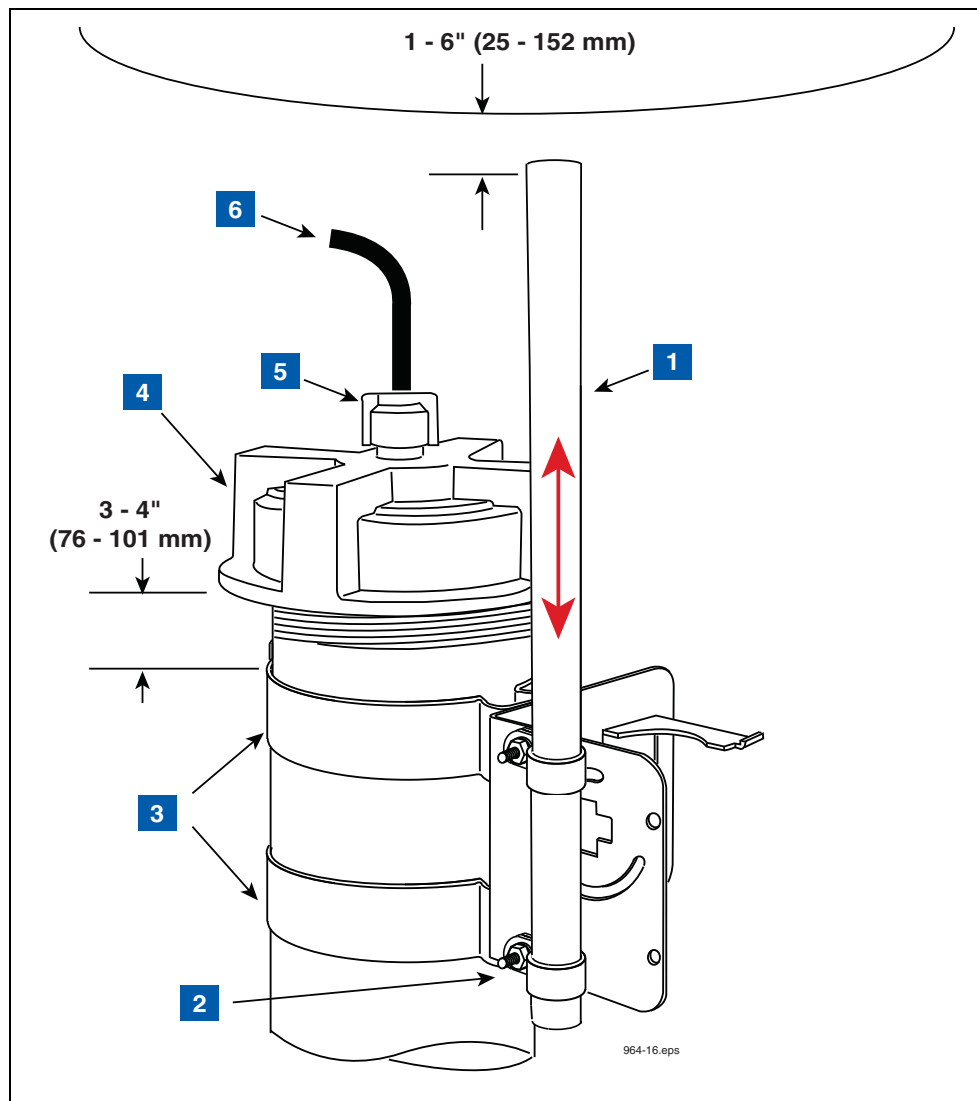

Figure 16. Installing Transmitter Support Conduit
4. Loosen the probe cable cord grip and remove the riser cap. Thread the probe cable through the two conduit hangers as you slide the hanger/bracket assembly onto the riser. Adjust the conduit hangers until the top one is 3 - 4 inches below the top of the riser as shown in Figure 16. Tighten the two conduit hanger bolts to secure the bracket on the riser. Loosen the cord grip in the top of the riser cap and push the probe cable up through the cord grip and replace the riser cap and tighten the probe cable cord grip. Insert a piece of 1/2-inch conduit or ducting into the loosened conduit clamps in the battery pack support bracket. The conduit can be positioned below the manhole cover from 1 to 6 inches, as required for best signal reception. Place a mark on the conduit above the top clamp. Remove the conduit to a non-hazardous location and cut off the excess length. Push the conduit down through the two clamps until the top clamp is below the mark on the conduit and tighten the two clamps.
**LEGEND FOR NUMBERED BOXES IN Figure 16**